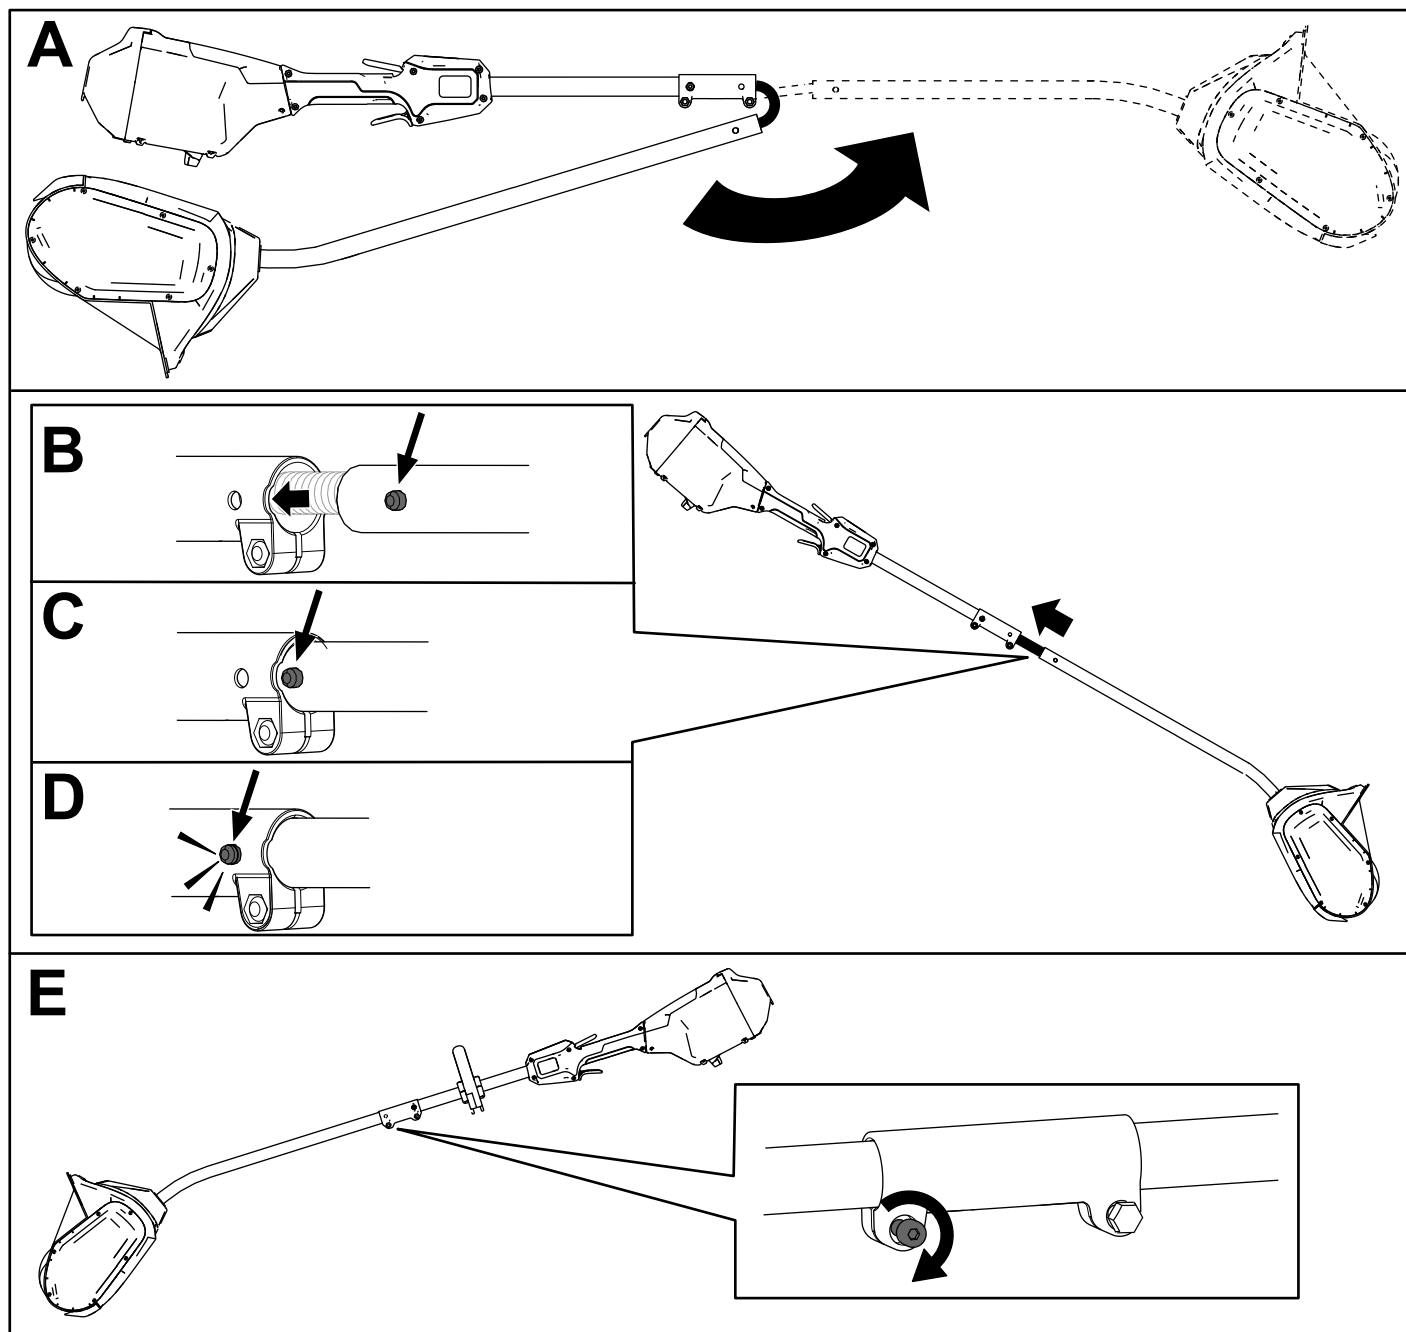

Figure 4
1. Unfold the handle (A of Figure 4).
2. Align the locking button on the lower shaft with the slotted hole on the upper shaft and slide the 2 shafts together (B and C of Figure 4).
Note: The locking button clicks into the slotted hole when the shafts are secured (D of Figure 4).
3. Using the provided Allen wrench, tighten the screw on the shaft connector until it is secure (E of Figure 4).